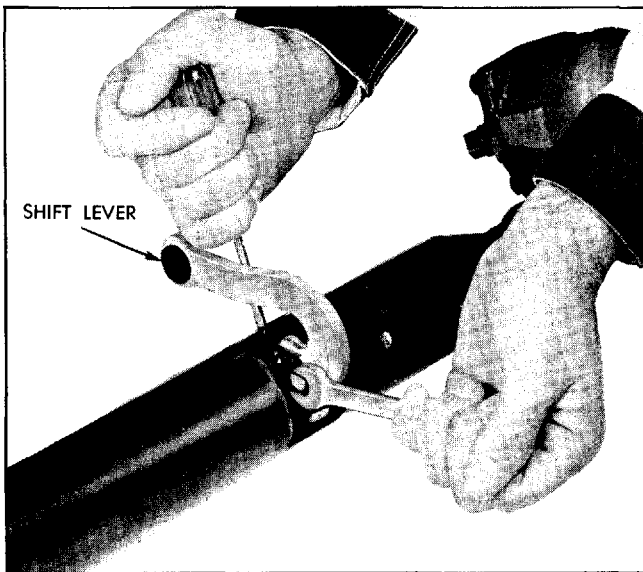

Fig. 7-12 Removing Lower Shift Lever
14. Remove shift lever from tube yoke by loosening screw about $\frac{1}{8}$ " with an open end wrench and moving lever down and out. Gearshift tube can be held downward by means of screwdriver inserted through selector lever opening (Fig. 7-12). Attaching screw need not be completely removed from bracket since re-installation is greatly simplified if screw is left in.
3. With screw started in gearshift lower lever, position lever against bottom of lower lever drive plate engaging driving lugs and extrusion at screw boss and tighten cap screw securely. Shift tube can be held down by means of screwdriver inserted through selector lever opening (Fig. 7-12).